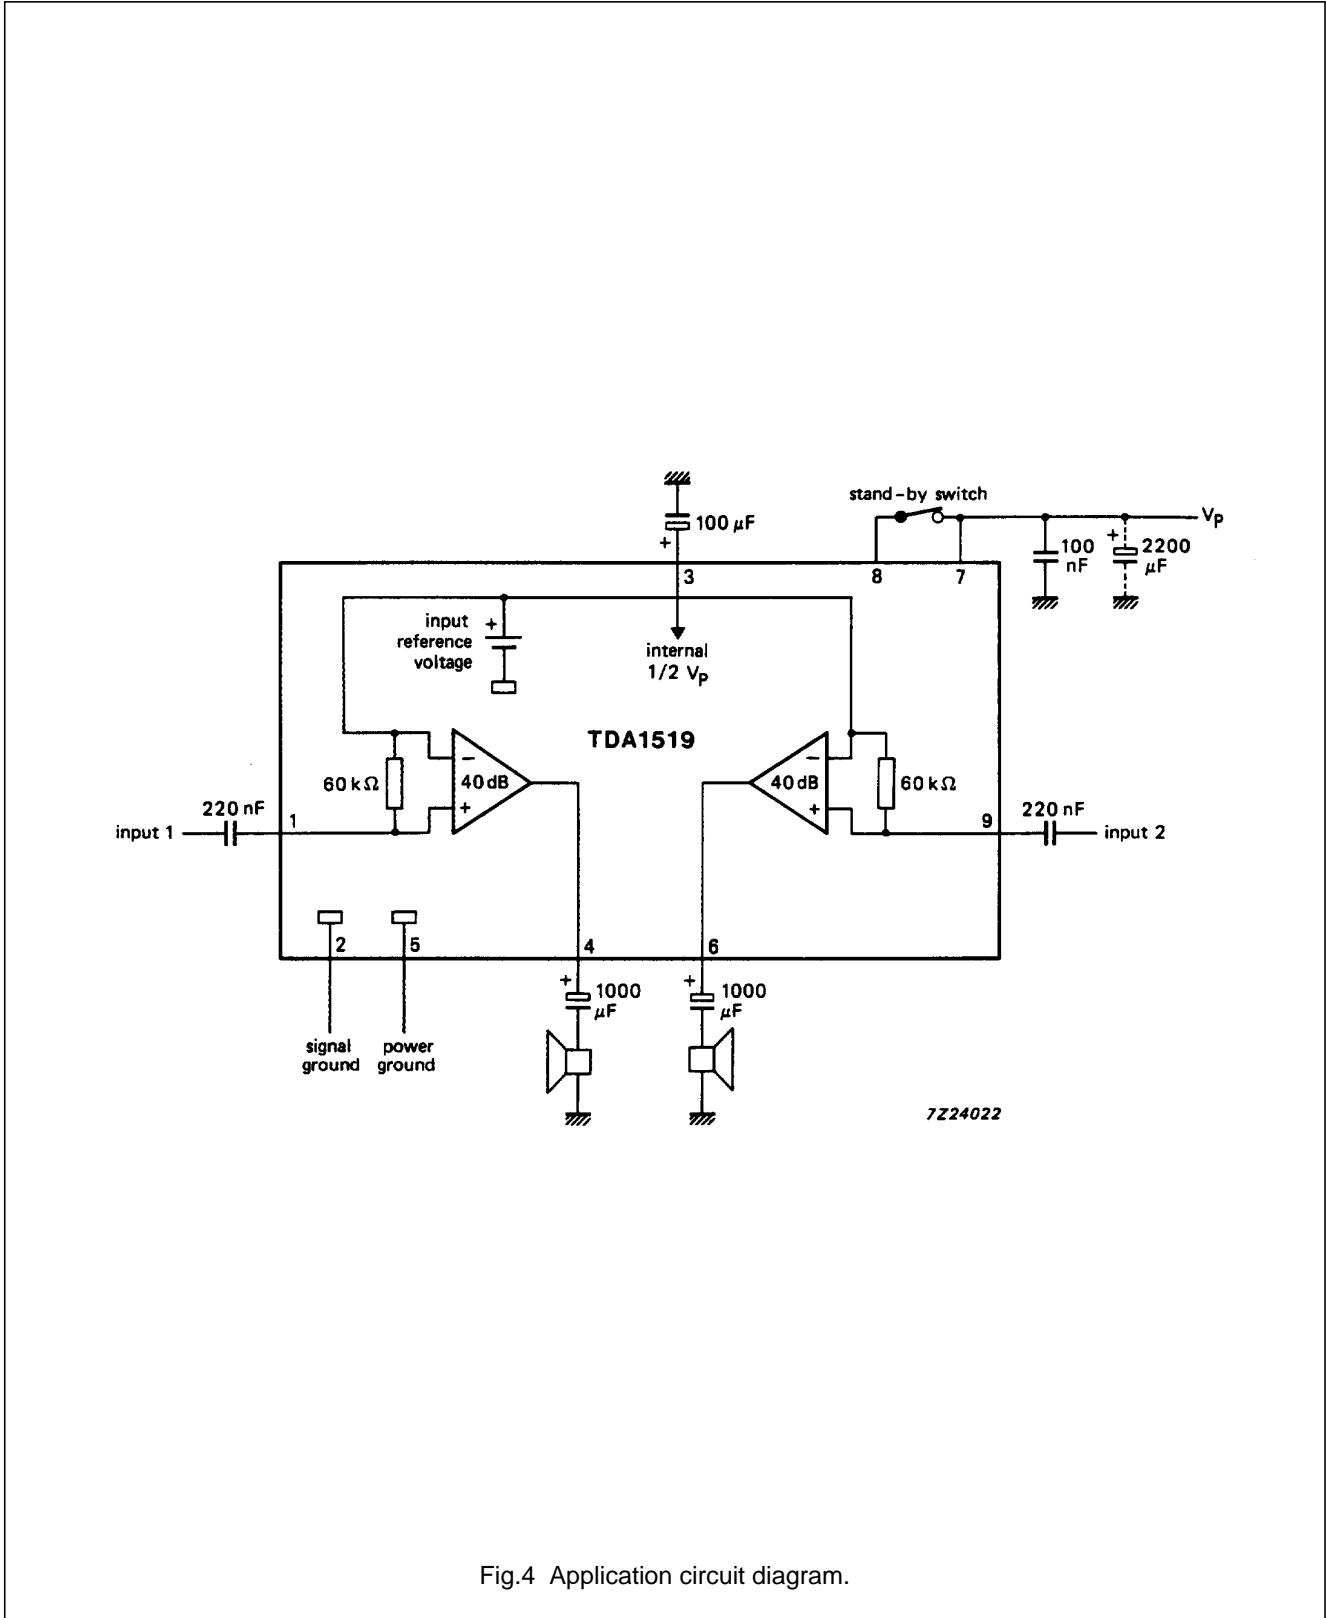

Fig.4 Application circuit diagram.
- All characteristics are measured using the circuit shown in Fig.4.